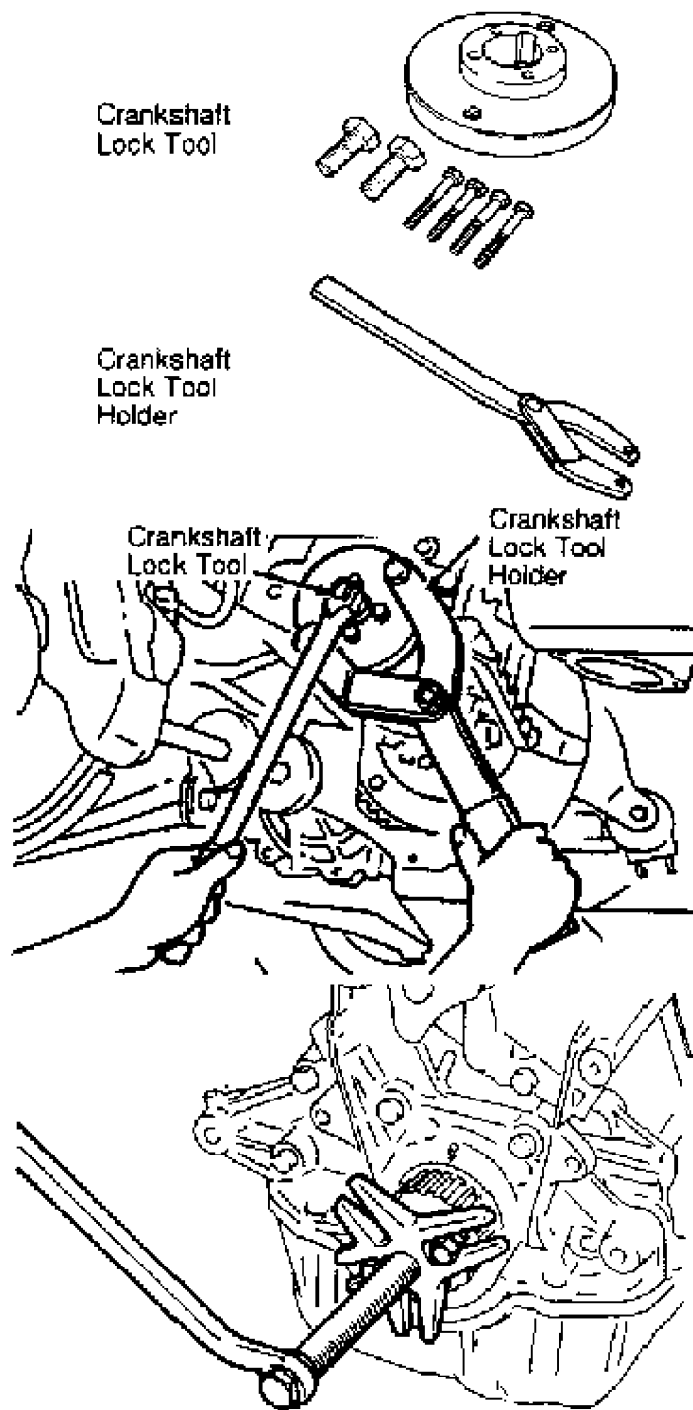

Fig. 5: Removing Crankshaft Sprocket
4) On all engines, check timing belt deflection with 22 lbs. (10 kg) of pressure applied to belt. See Fig. 5. Ensure timing belt deflection is within specification. See TIMING BELT DEFLECTION table.
(1) - Deflection measurement is with 22 lbs. (10 kg) of pressure applied to timing belt. See Fig. 5.